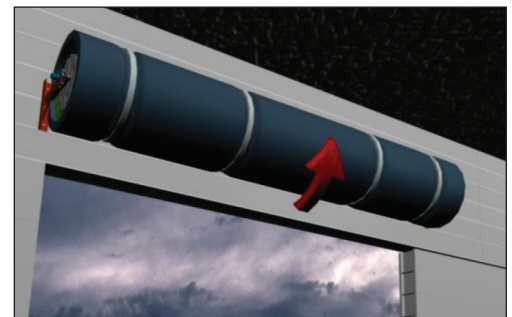

Figure 5 Pre-Tension Door Springs
- The bottom bar should be in a downward or “6 o’clock” position, while the springs are relaxed. Apply tension to the springs by rotating the door two (2) complete turns in a forward direction (**Figure 5**).